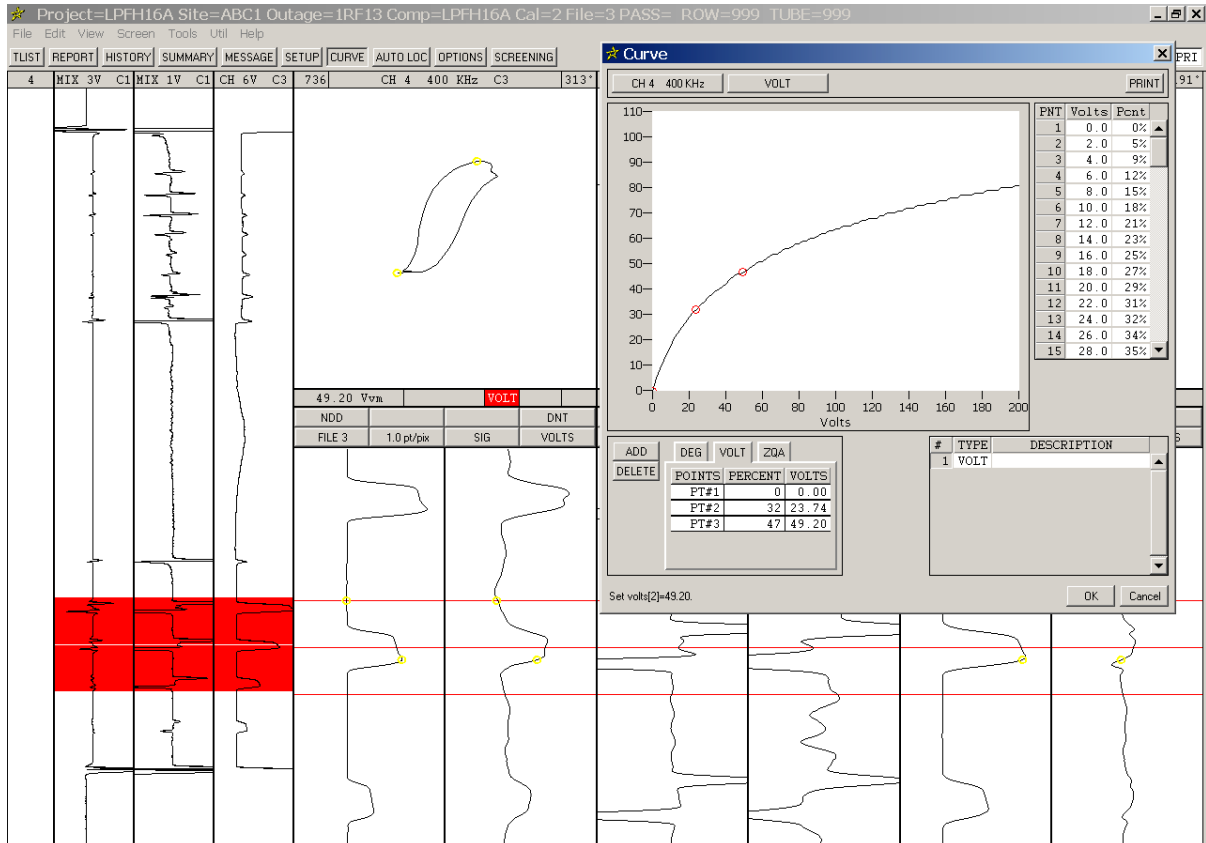

Figure 1-23. Analysis Screen - Curve Dialog – Completing a Volts Curve
STEP 33: Click in the *Volts* field for *PT#3* on the *VOLT* table. As shown in Figure 1-23, the *V_{vm}* measurement (~49.20) for *CH 4* is automatically entered in the field and the final curve for this channel is displayed.